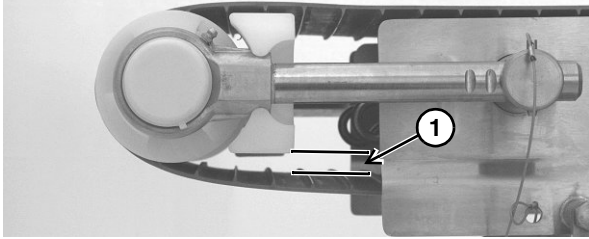

Figure 51
- Some belt sag (**Figure 51, item 1**) is required for proper operation.